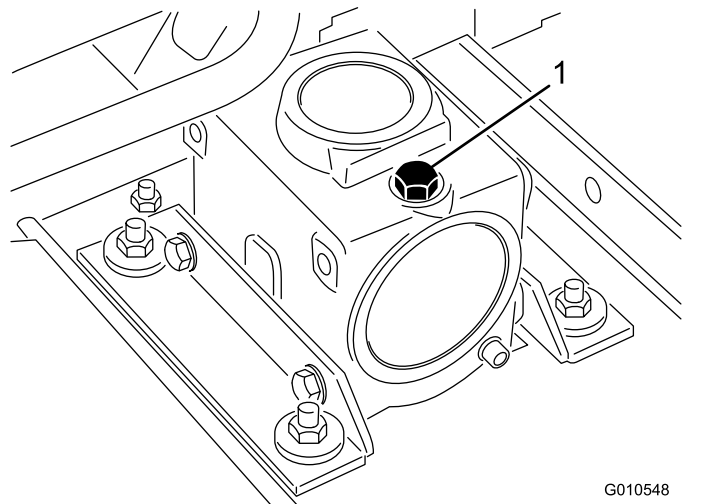

Figure 18
2. Remove the dipstick/fill plug from the top of the gearbox (Figure 18) and make sure that the lubricant is between the marks on the dipstick. If the lubricant level is low, add enough lubricant until the level is between the marks.